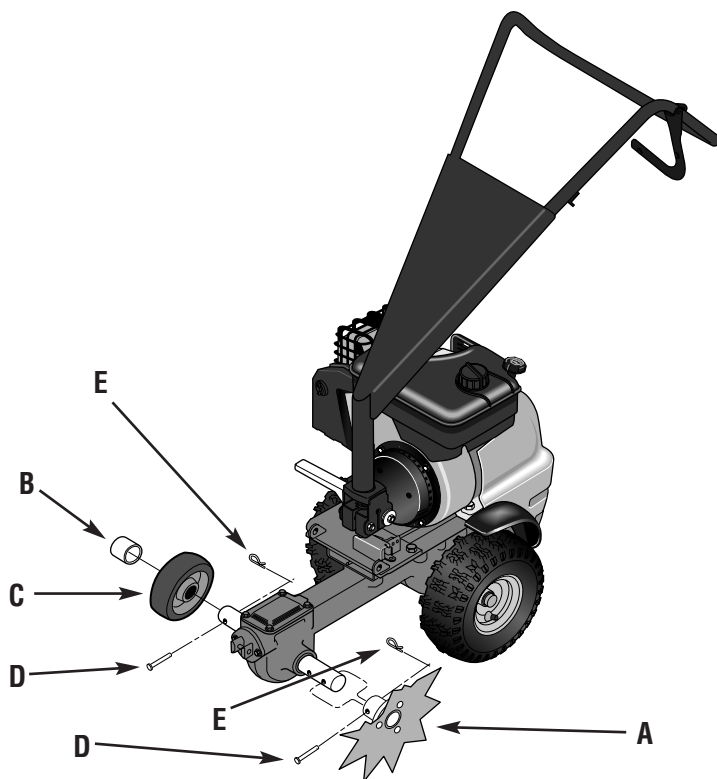

Figure 1: Border/Edger tine and wheel can be switched to either side.
Check the parts you received with the items shown in Figure 1 and listed below. If any parts are missing or damaged, contact us immediately.
5. Slide the border/edger tine (A, Figure 1) on the right-hand or left-hand side of the tine shaft. Align the holes in the tine shoulder with the outer hole in the shaft. Insert a clevis pin (D) through the holes. Secure the clevis pin with a hair pin clip (E).
6. Slide the wheel (C, Figure 1) on the other end of the tine shaft. Then slide the wheel spacer (B) on the tine shaft. Insert a clevis pin (D) through the shaft hole. Secure the clevis pin with a hair pin clip (E).